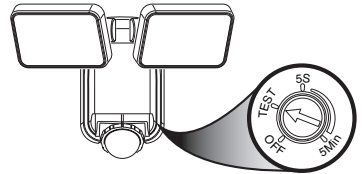

Figure 9
IMPORTANT: Turn the control dial on the side of the sensor to the OFF position and allow the battery to charge with 3 to 7 days of full sunshine before testing (see Figure 9).
1. Turn the control dial to the TEST position (see Figure 9).